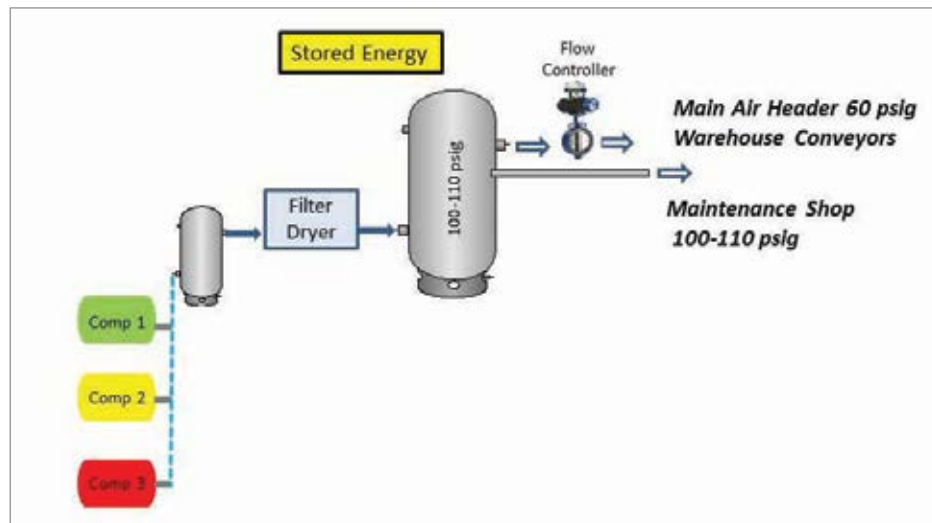

Figure 3. Sected storage example
- Figure 3. shows an independent dedicated supply line connected from the main air storage receiver to a maintenance shop area that requires higher pressure air.